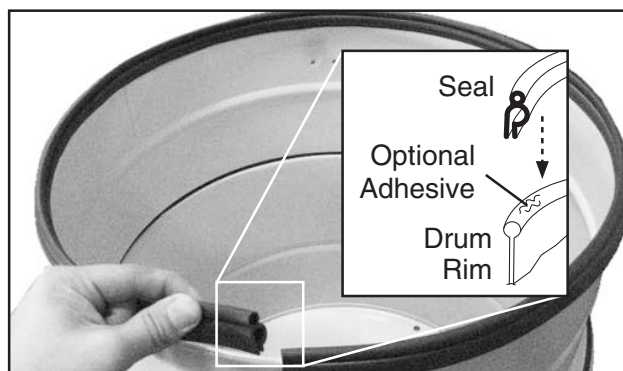

Figure 34. Installing canister seal.
18. Insert the rubber seal over the top lip of the collection drum rim. Pay special attention to the direction of the seal, as shown in the **Figure 34**.